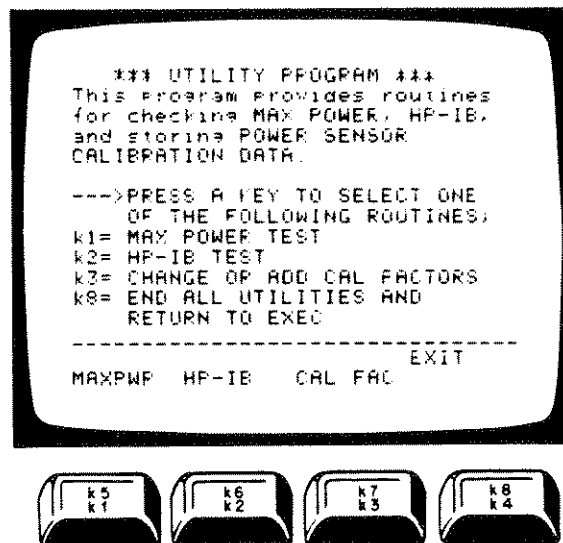

Figure 5-24. Utility Menu
12. When the Main Menu, Figure 5-2, is displayed, press k6 to run the "Utilities" program. The Utility Menu, Figure 5-24, will be displayed.